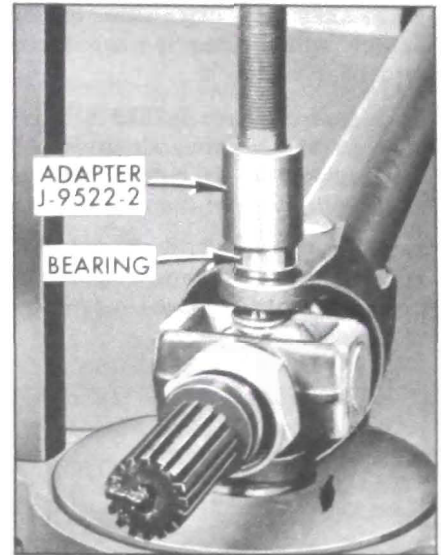

Figure 6-65—Pressing Bearing Into Position
3. Place the assembly in position with Power Ram J-6180 and Pump J-6207 as shown in Figure 6-65.